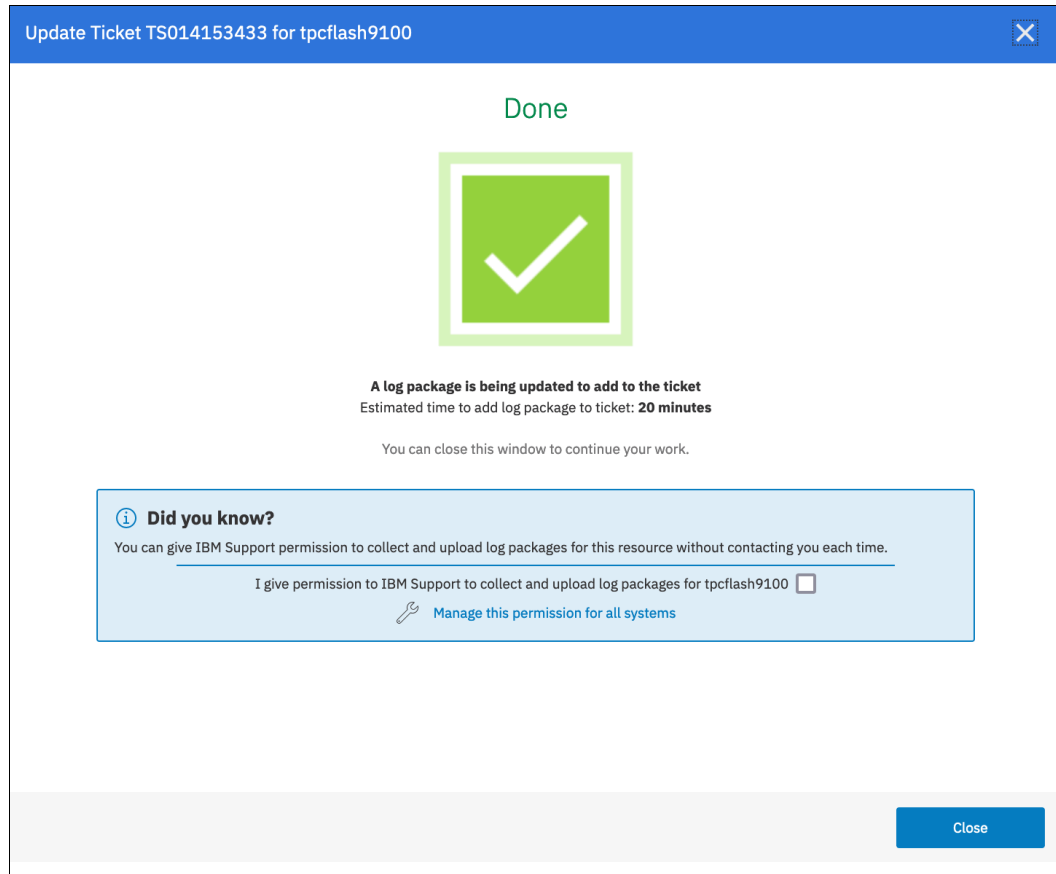

Figure 5-17 Update ticket
- Once done, select **Create Ticket**. A confirmation window opens, as shown in Figure 5-17 on page 82, and IBM Storage Insights automatically uploads the snap to the ticket when it is collected. Click **Close**.